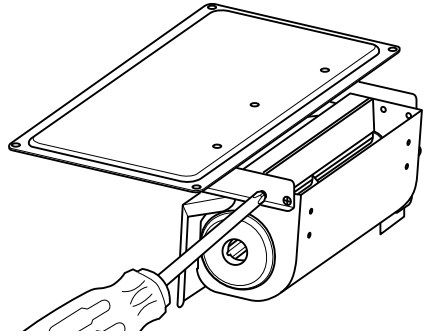

Figure 11 - Attaching Blower Assembly to Blower Access Panel
2. Mount blower onto blower access panel, (see Figure 11).